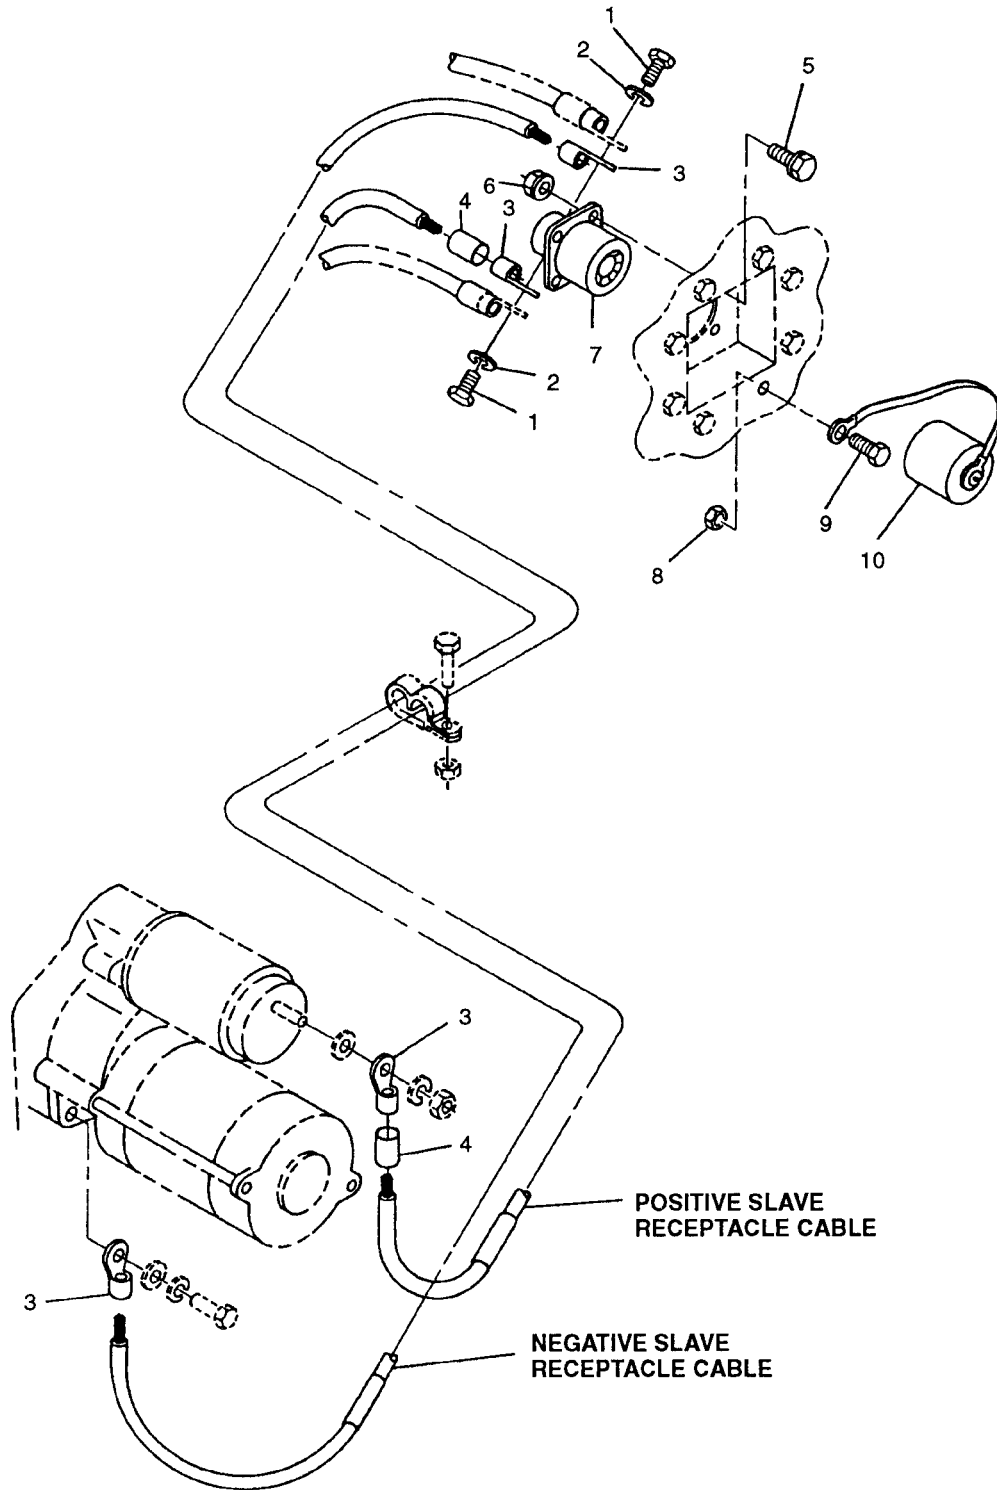

FIGURE 2-4. NATO Slave Receptacle and Cables
- c. Tag and disconnect battery and slave receptacle cables from slave receptacle (7, FIGURE 2-4) by removing bolts (1) and blockwashers (2).
- d. Remove bolts (5), nuts (6), and NATO slave receptacle (7) from generator set housing.
- e. Remove nut (8), bolt (9), and cover (10) from generator set.
- a. Insert NATO slave receptacle (7, FIGURE 2-4) into generator set housing.
- b. Secure receptacle (7) with bolts (5) and nuts (6).
- c. Connect slave receptacle and battery cables to slave receptacle (7) with bolts (1) and lockwashers (2) Remove tags.
- d. Install cover (10) on generator set with bolt (9) and nut (8).